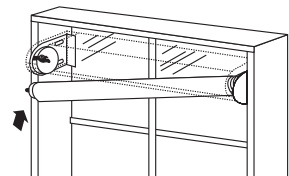

Fig 8
- b. Then insert the idle end plug into the idle end unit, and snap the idle end unit securely into place (Fig 8).